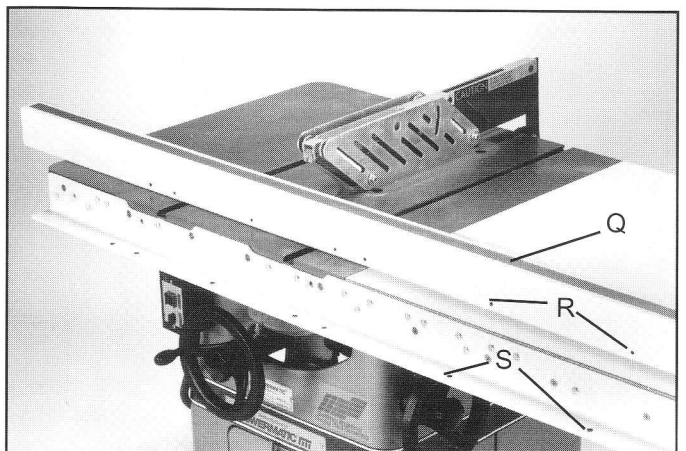

Fig. 22
14. Lay guide tube (Q) Fig. 22, on saw table as shown, and line up the threaded holes (R) in bottom of guide tube with through holes (S) in the front rail. Guide tube will extend 6" past the rail at both ends.